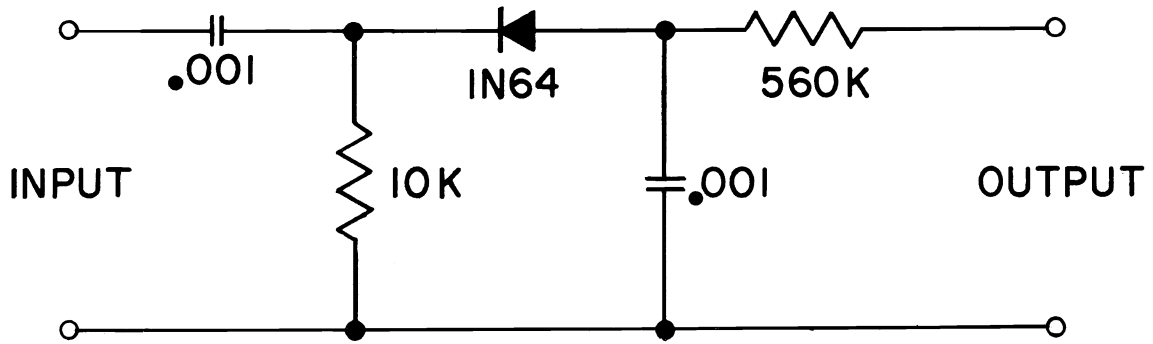

FIGURE 4
2. Connect VTVM diode probe (Figure 4) to pin 7 of the 6HZ6 (V3).